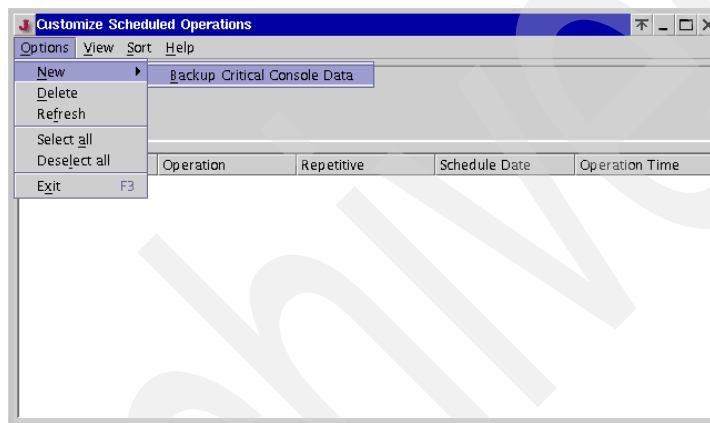

Figure 4-14 Customize Scheduled Operations window
2. Select the Scheduled Operations task in the Contents area. The Customize Schedule Operations window opens, as shown in Figure 4-14.